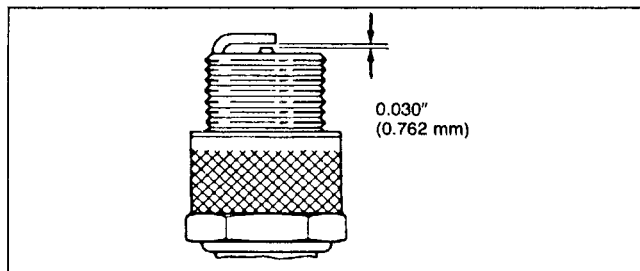

Figure 18
4. Set air gap between center and side electrodes at 0.030 of an inch (0.762 mm) (Fig. 18). Install correctly gapped spark plug w/gasket seal, and tighten plug to 15 ft-lb (20.4 N·m).